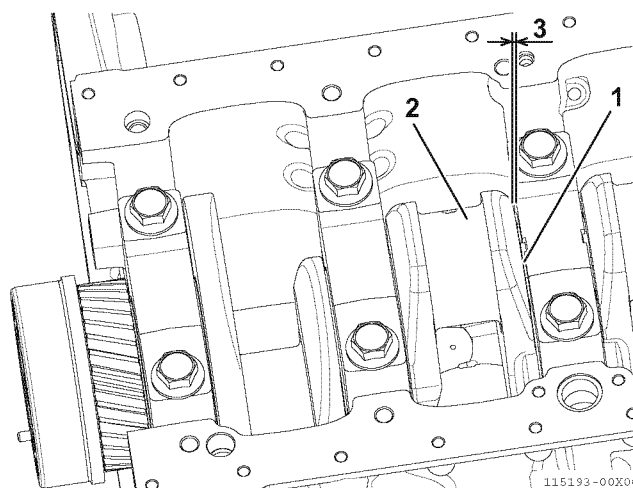

Fig.13-4
- 2 - Use a feeler gauge to measure the clearance (3, Fig.13-4) between the thrust bearing (1, Fig.13-4) and crankshaft (2, Fig.13-4). Record the measurement. For limit values, see 0000-07-01-03 "Thrust bearing". If not within specifications, replace the thrust bearing or crankshaft.